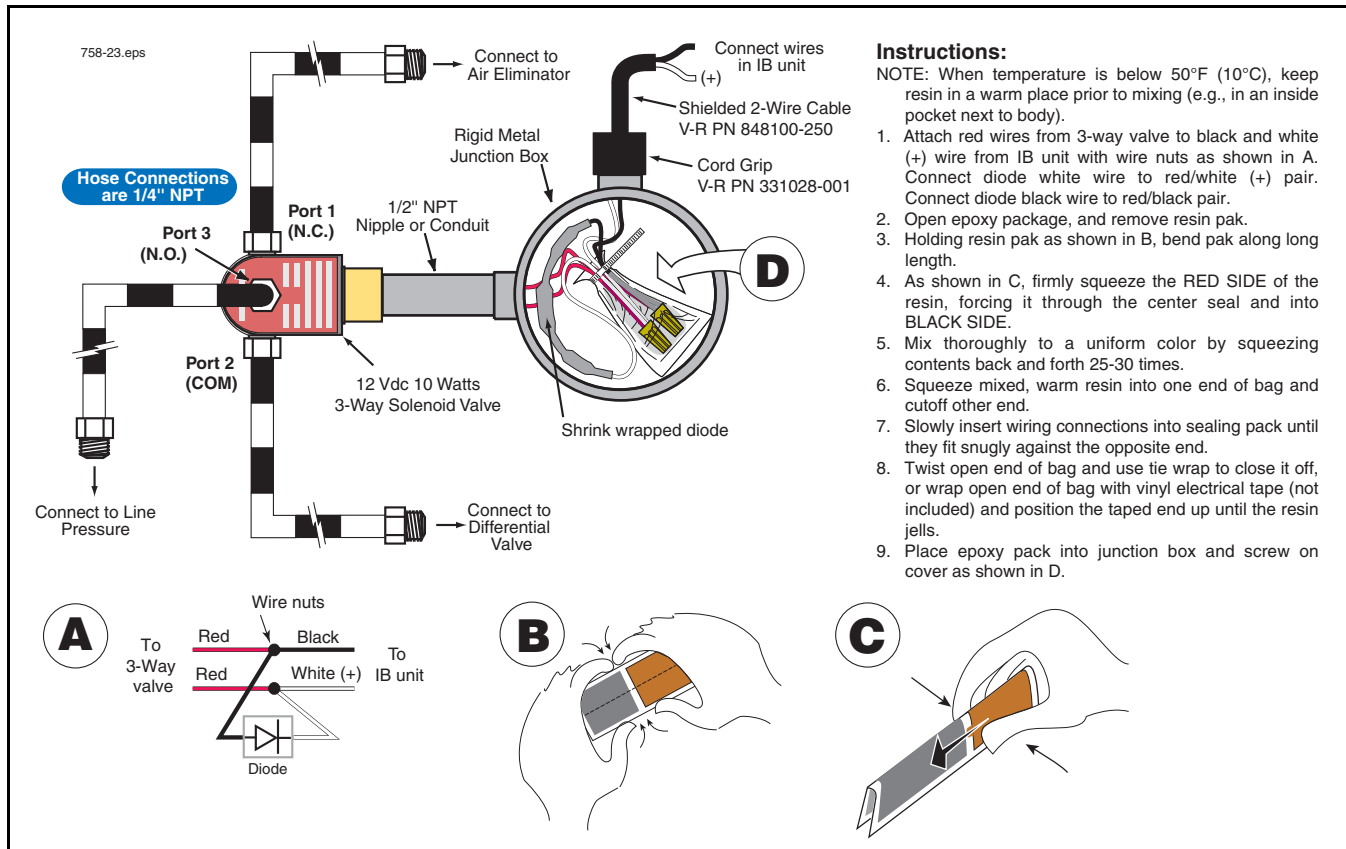

Figure 24. Connecting 3-Way Valve To Neptune Meter - Truck LP Gas Installations
1. On the valve, install a rigid metal conduit nipple in the threaded opening, provided for the solenoid wiring. Run the two red wires from the 3-way valve, through the nipple and into a metal junction box. Mechanically attach the valve/nipple combination to junction box as shown in Figure 24. *Even though the 3-way valve will operate in any position, it will last longer and perform best if mounted vertically upright (port 3 up).* Secure the junction box to the vehicle's frame.
3. Using the wire nuts, connect the stripped wires from the IB box to the 3-way valve wires (see Figure 24). There is no polarity to the 3-way valve's wiring. Seal the wire nuts with epoxy sealant using one bag for both wire nut connections and place bag in junction box (see Figure 24).
Connect a hose from line pressure to port 3 (normally open port) of the 3-way valve (see Figure 24). On some systems, line pressure is available at an opening in the vapor eliminator housing. Connect another hose from the 3-way valve's port 1 (normally closed port) to the air eliminator. Connect a third hose from the 3-way valve's port 2 (common port) to the differential valve.